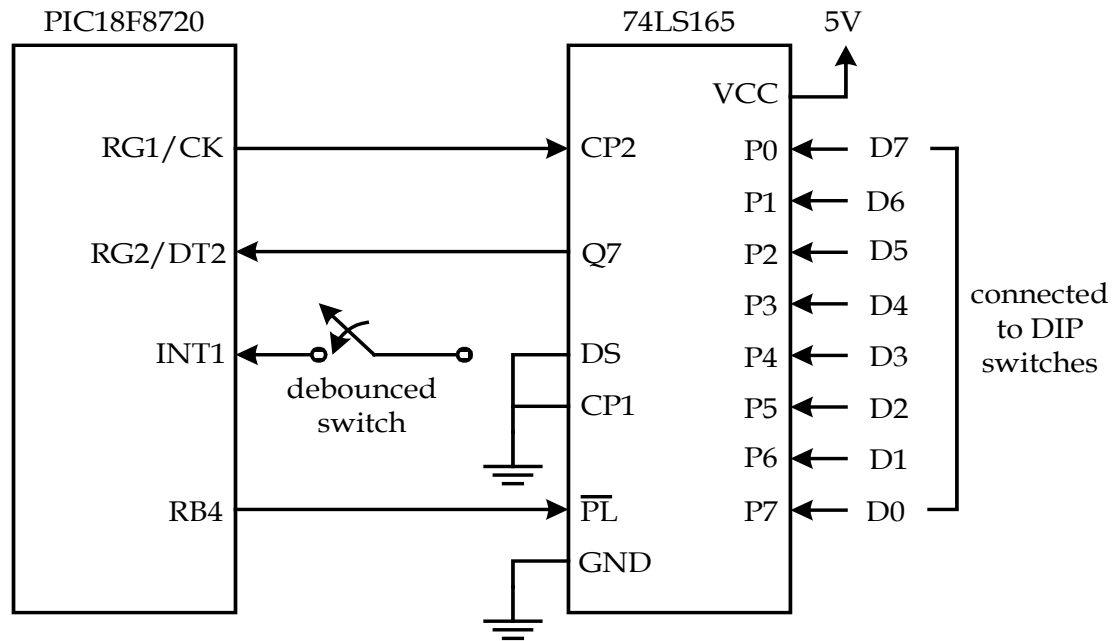

Figure 9.17 Circuit connection between the PIC18F8720 and 74LS165
5. Circuit connection is shown in Figure 9.17.